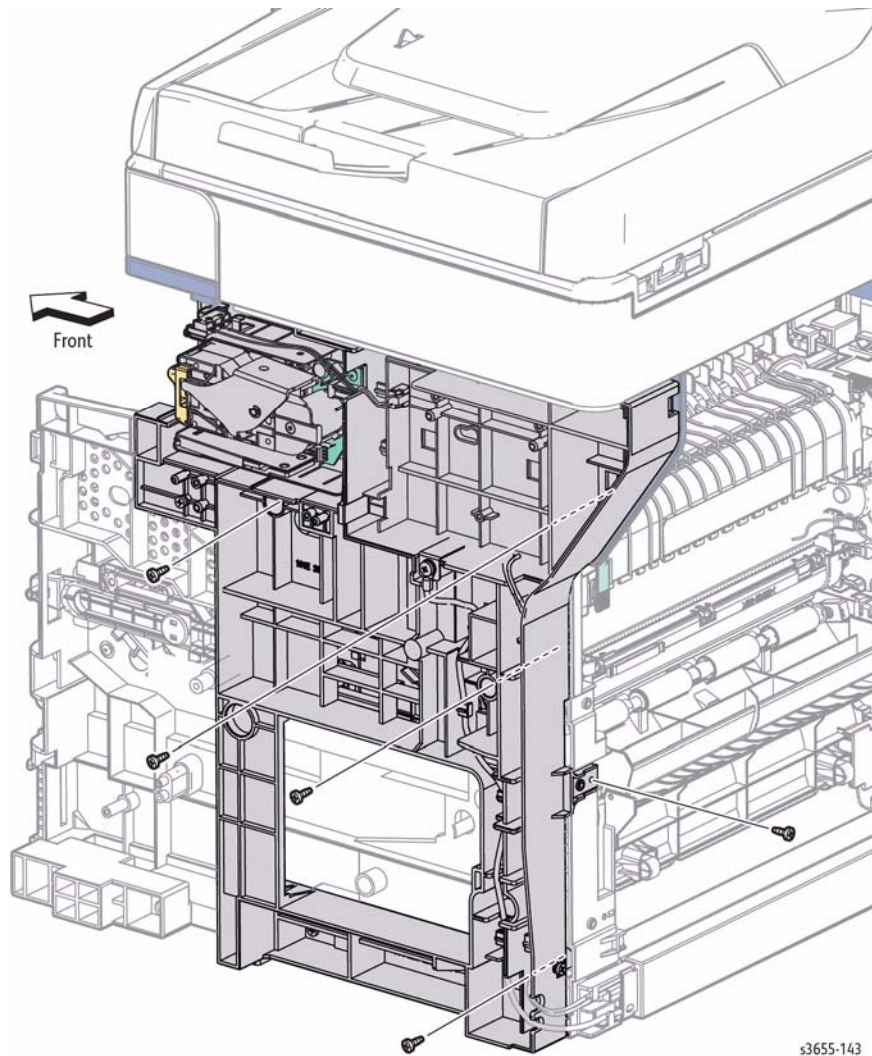

Figure 1 Remove the IIT Support screws
9. Refer to Figure 1 to locate and remove 5 (silver, tapping, 8mm) and 3 (silver, tapping, 10mm) screws that secure the IIT support to the chassis.